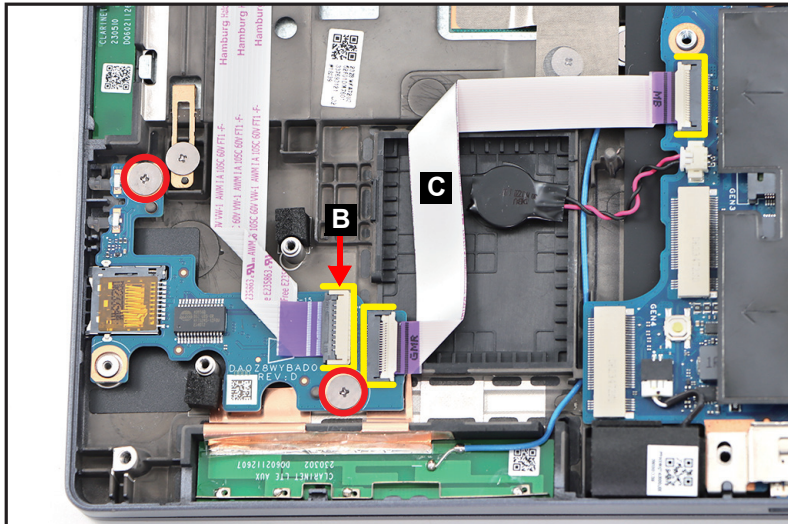

Figure 1-51. LED Board Removal
2. Disconnect the smart card reader FFC from the LED board connector (B) (Figure 1-51).
3. Disconnect the LED board FFC (C) from the LED board and mainboard connectors (Figure 1-51). Then remove the FFC.
4. Remove two (2) screws securing the LED board (Figure 1-51).